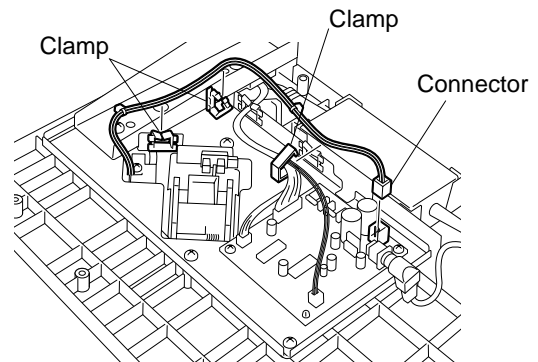

Fig. 6-11
- Remove STP cover open switch. (See Fig. 6-11 and 6-12)